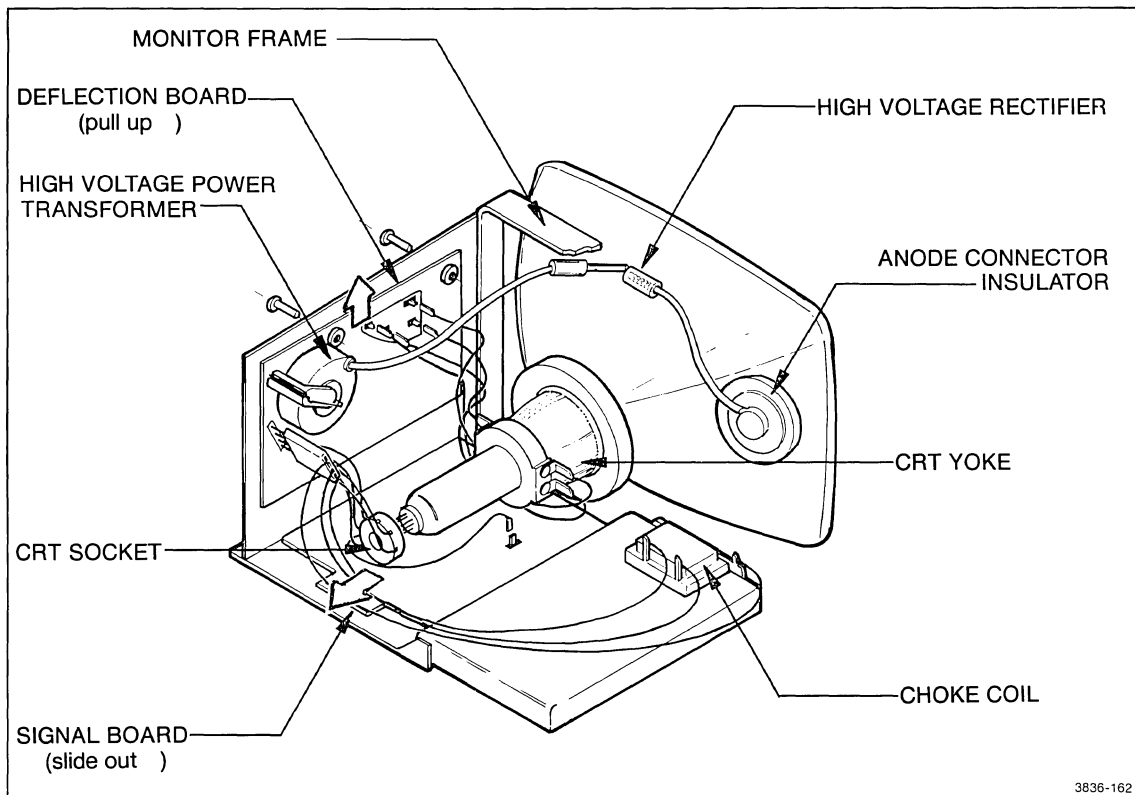

Figure 6-11. Item locations for monitor disassembly (MONOCHROME ONLY).
Figure 6-11 shows the locations of the two circuit boards in the monitor. It also calls out the parts that must be disconnected or removed in order to remove the circuit boards.
10. BEFORE REMOVING ANY BOARDS, BE SURE TO DISCHARGE THE CRT BY SHORTING THE ANODE CONNECTION TO CHASSIS GROUND. Attach a grounding strap to the frame for ground, then attach the strap to a metal probe. Carefully insert the probe beneath the plastic anode connector insulator on the side of the CRT (refer to Figure 6-11).
Instead of probing the anode connector, you can protect yourself from high voltage in the monitor by separating the two halves of the high voltage rectifier. Gently grasp the two plastic insulator guards and pull in opposite directions. This part is labeled in Figure 6-11.
12. Remove all connectors between the CRT and both boards and between the deflection board and the choke coil. Take note of the position of wire colors before pulling any connectors. The deflection board is connected to the CRT yoke by four single connectors and to the CRT socket at the end of the yoke by five wires. One yellow wire connects the CRT socket to the signal board. Pull the CRT socket straight out, away from the end of the yoke. A 3-wire harmonica connector, next to the high voltage power transformer, attaches the choke coil to the deflection board. Refer to Figure 6-11.